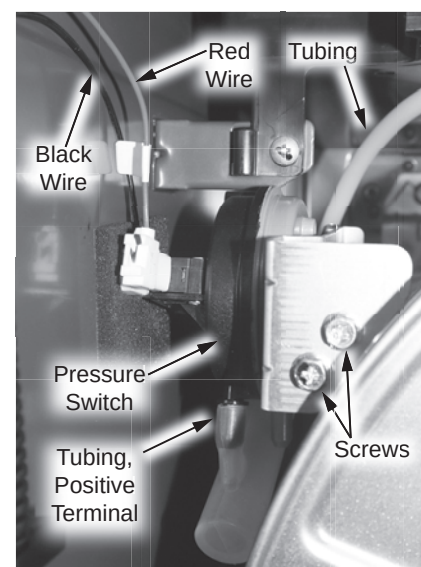

Figure 140 - Pressure switch assembly location
- 36** Locate the pressure switch assembly on upper left side of the heat exchanger as shown in Figure 140.
- 64** Connect tubing from pressure switch assembly to the port located on the heat exchanger exhaust as shown in Figure 30. Confirm tubing is fully secured to heat exchanger. Confirm tubing is connected to the positive terminal (black side) of the pressure switch assembly as shown in Figure 140.
- 65** Connect pressure switch wires previously removed in **Step 39**. Red connection is on the right and black connection is on the left. Confirm connections are tight and routed properly as shown in Figure 140.
- 66** Install pressure switch assembly to heat exchanger. Secure with the two (2) screws previously removed in **Step 38**.